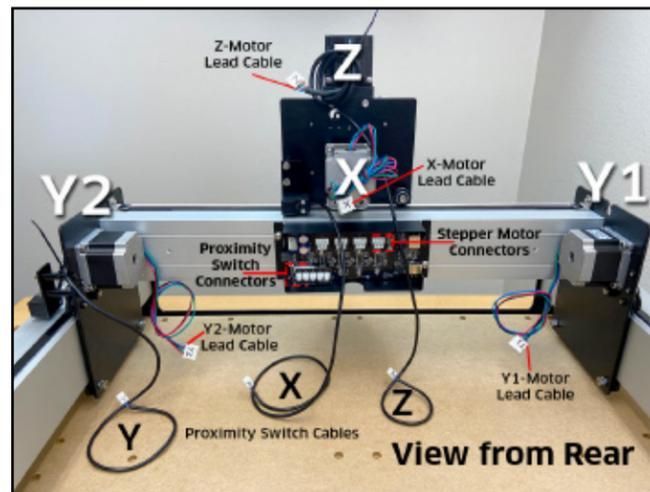

Figure 7-7
1. Familiarize yourself with the location of each stepper motor and proximity switch cable shown in **Figure 7-7**.
2. Use the permanent marker to label each of the four stepper motor connectors with the appropriate label, “X,” “Y1,” “Y2,” or “Z,” as shown in **Figure 7-7**.